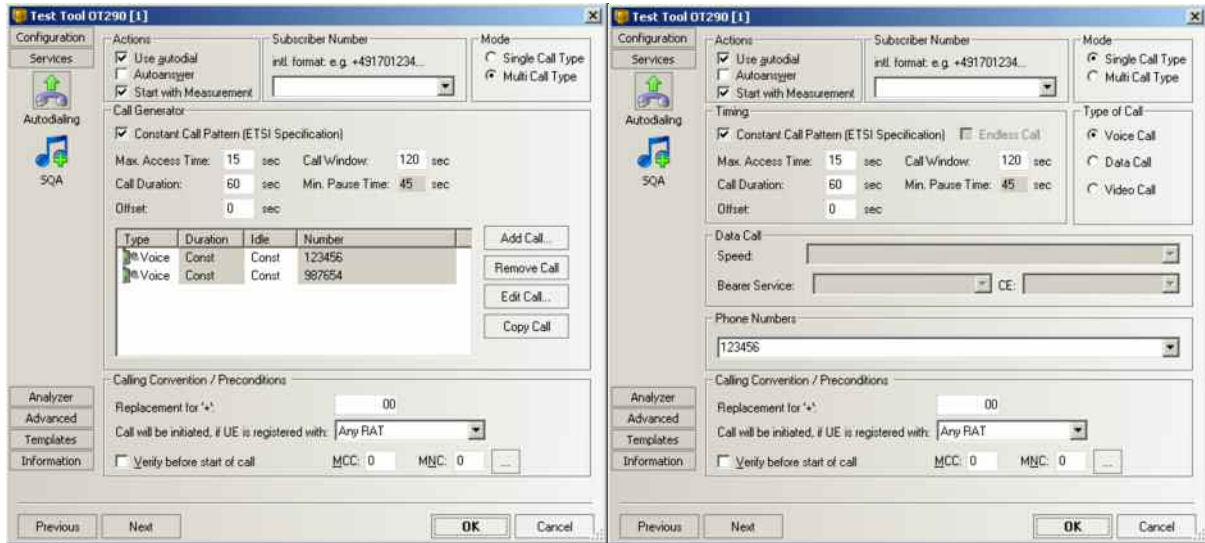

Fig. 6-25 Driver Configuration – Autodialing tab (Sagem x6, multi call type)
- A multi call is a sequence of calls with individual call settings, to be configured in the multi call version of the *Autodialing* tab (see Fig. 6-25 on p. 6.3). The call sequence is periodically repeated if *Use autodial* is selected.